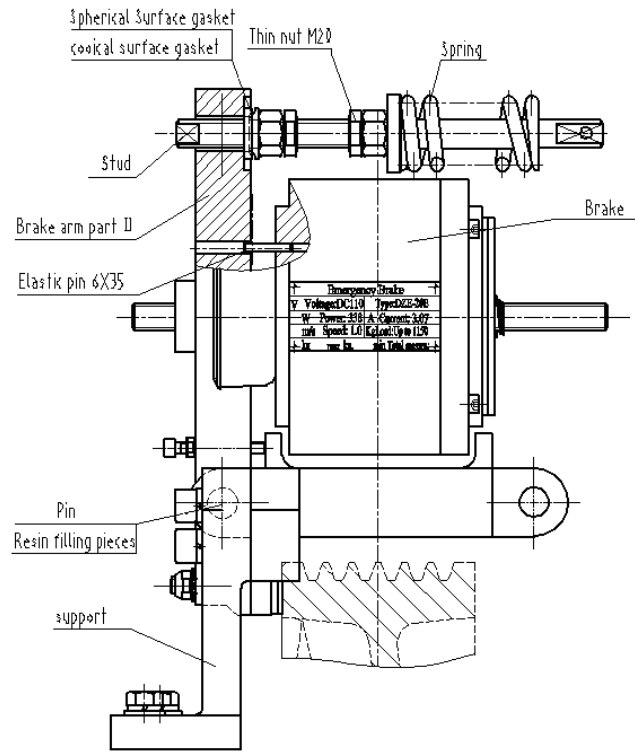

Figure 32 Emergency Brake Installation
Note: Put the Elastic pin 6X35 of brake into the hole of Brake arm part II. See figure 32.
4. Install the new Brake into the hole of Brake arm part II. See figure 32.
5. Install the stud (Including Spring, Nuts and Gasket) into the hole of Brake arm part II. See figure 32.